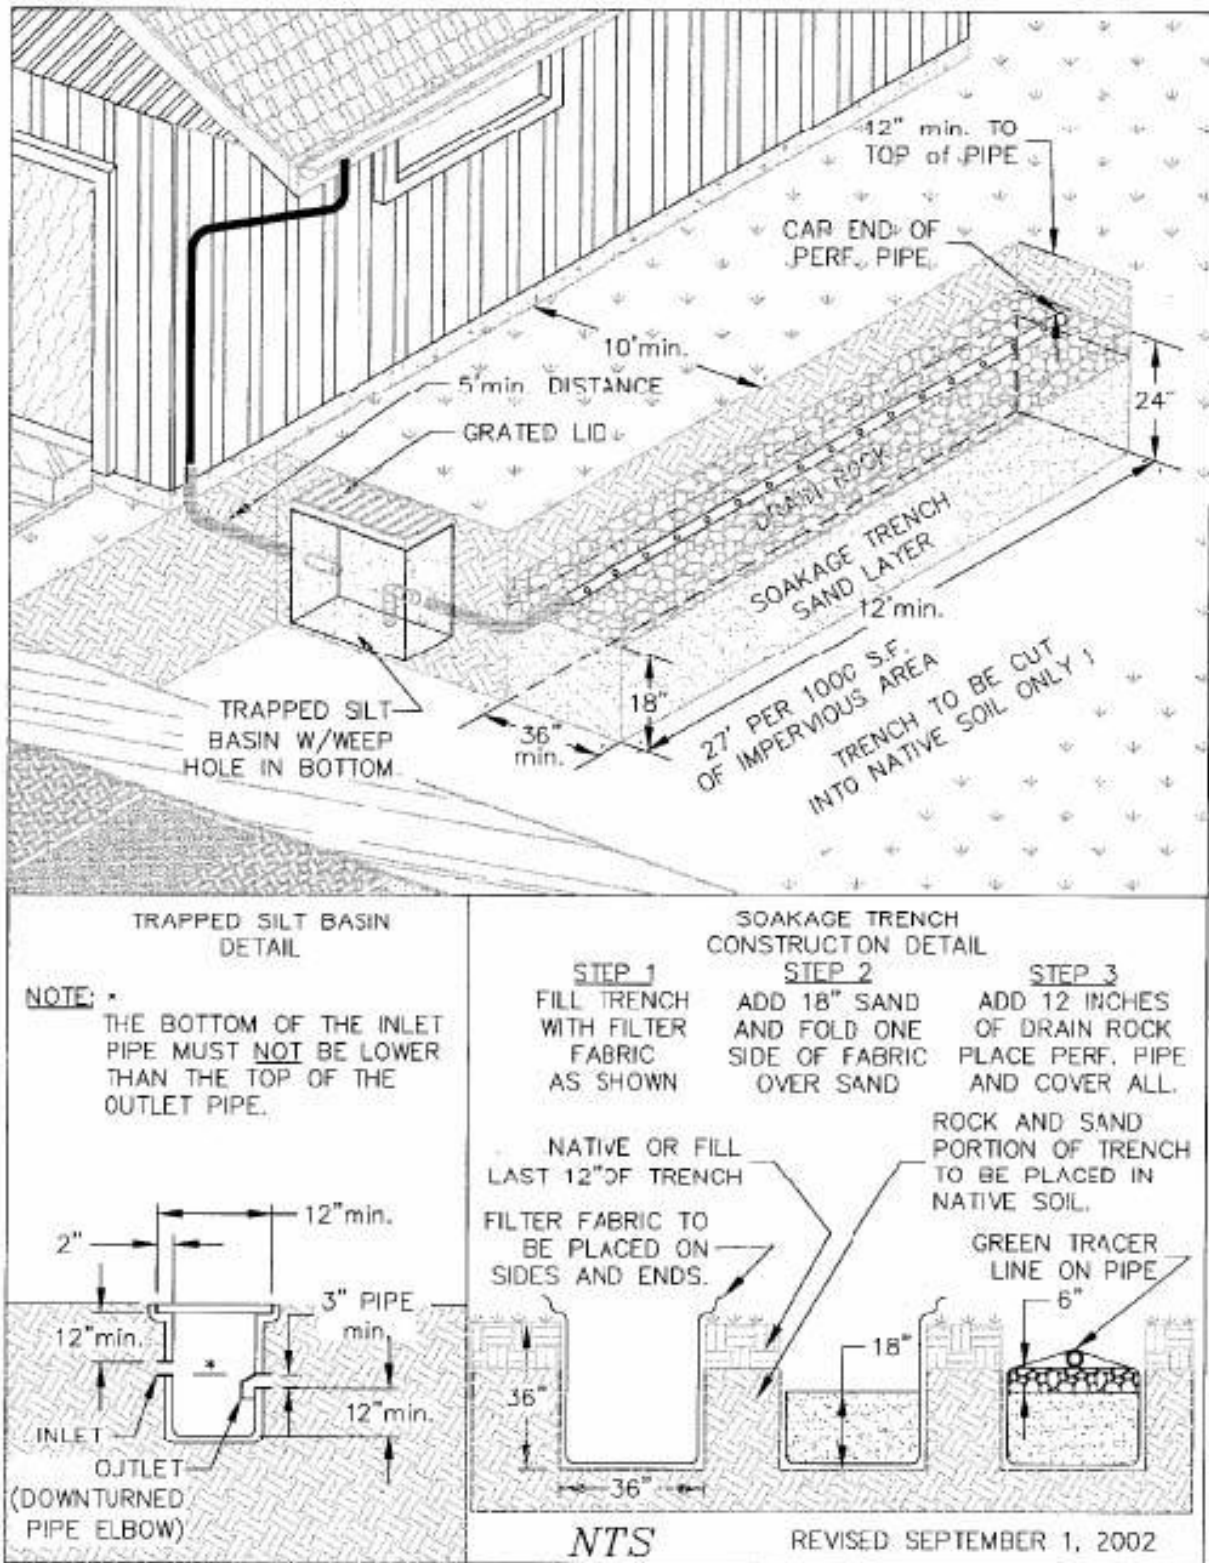

Figure 2.2.20-1 Schematic of a Soakage Trench
- The trench should be at least 3 feet deep and 2.5 feet wide as shown in Figure 2.2.20-1. The exact dimensions will be dependent on the drainage characteristics of the surrounding soils.